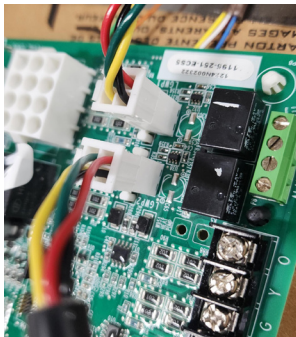

Figure 58
- Ensure the cable is properly seated into the SENSOR 1 plug (LGWP1). The Molex plug clip should lock into the Molex connection point for a secured connection, as shown below in Figure 58. Verify the connection is free of dust, debris, and moisture.